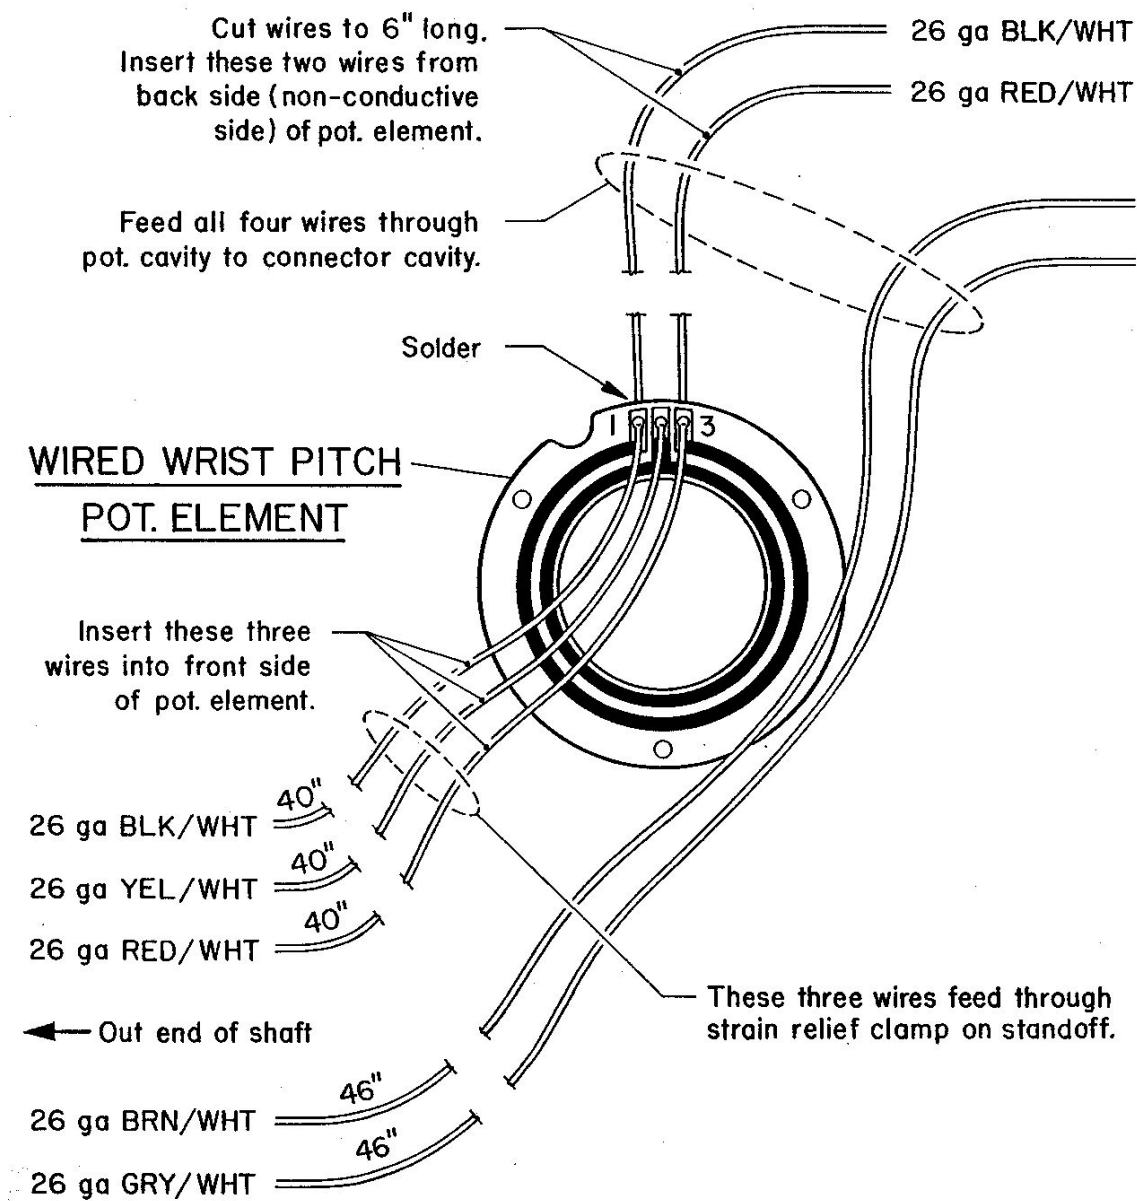

Figure 4-8 Wiring of wrist pitch actuator potentiometer element
4. Install Quad-ring (14) and seal (26) in both halves of actuator body.
5. Install O-ring (15) in actuator body (9).
6. Insert shaft/vane assembly into actuator case half (9) with a twisting motion. Use care to prevent cutting the vane seals on the sharp cavity edge.
7. Install stationary vane in actuator case half (9) using dowel pins (23). When slipping the vane into the actuator body use care to prevent cutting the vane seals on the sharp cavity edge and the sharp shoulder of the shaft.
8. With a twisting motion slide actuator case half (24) over end of shaft aligning with the dowel pin holes that capture the stationary vane. Make sure all seals are still in place. Use care to insure that the vane seals are not cut and that the vane seals do not bunch up when assembling the case halves.
9. Bolt case halves together using screws (25) and Loctite 242. Make certain face of actuator is flat across two case halves. Torque fasteners to 132 inch lbs.
12. Prepare the resistive potentiometer element (7) as shown in Figure 4-8.
13. Place the potentiometer element in the pot cavity of pitch actuator feeding the 2 wires that extend from the back of the element and additionally the BRN/WHT (WR pot return) and GRY/WHT (WY pot return) through the hole to the connector cavity. Secure the element with screws (6). Install standoff (5) and the wire strain relief clamp (4) with screw (3). Feed RED/WHT, BLK/WHT, YEL/WHT wires only through clamp and tighten screw.
14. Attach the potentiometer wiper ass'y (2) to shaft (21) using screws (1). The screws can be tightened with a hex key by rotating the shaft to align the screws with the access hole provided in the hub of the actuator body. After attaching the wiper assembly to the shaft, install O-ring sealing screw (8) to plug the access hole. Install using Loctite 242. Test for correct functioning of the potentiometer with a multi meter.